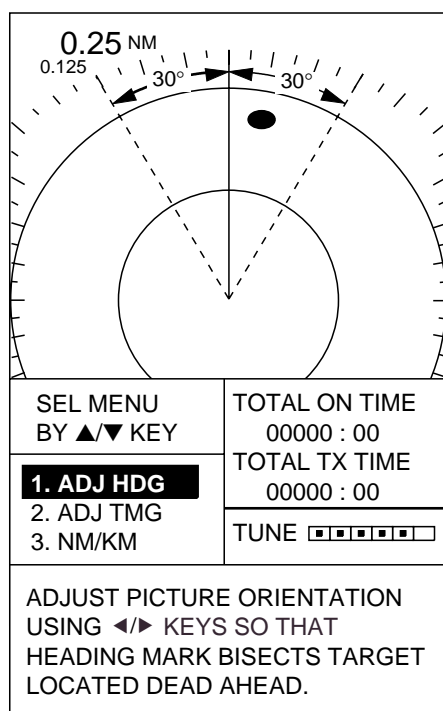

Figure 21 Display for adjustment of heading
3. Select ADJ HDG. Your display should now look something like the one shown in Figure 21.